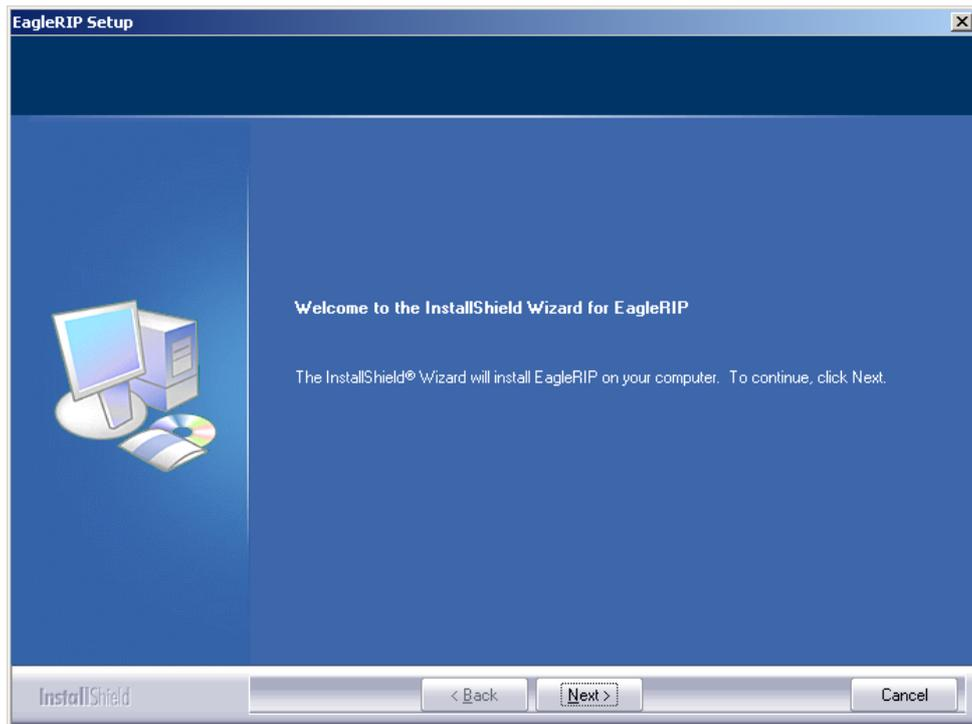

Figure2-1.
2. If the installer does not launch automatically, you can start it manually by double-clicking on the file `setup.exe` in the root folder on the CD. The Welcome window appears as shown in Figure2-1.